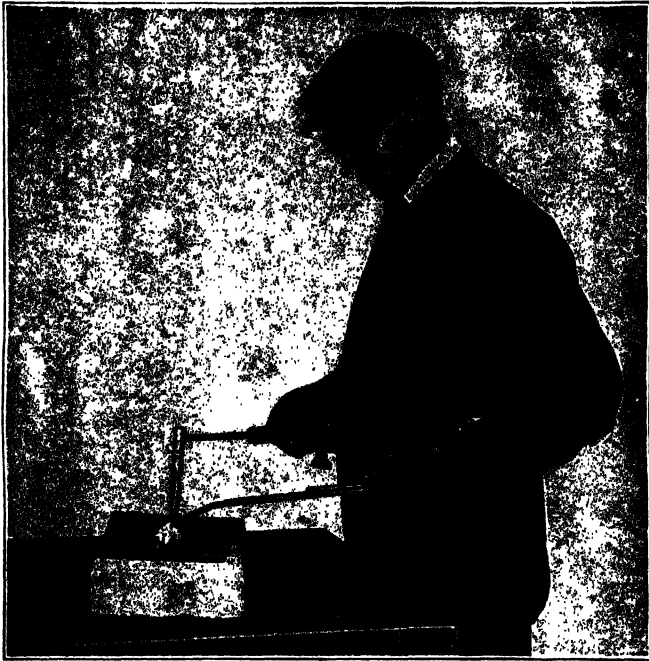

Fig. 14. Simple Job of Welding
- (1) The oxygen regulator is connected to the oxygen cylinder.
- (2) The acetylene regulator is connected to the acetylene cylinder.
- (3) The one hose is connected to the oxygen regulator and to the blowpipe.
- (4) The other hose is connected to the acetylene regulator and to the blowpipe.
- (5) A welding head is selected and attached to the blowpipe.
- (6) The oxygen and acetylene are turned on and the blowpipe is lighted.
**Welding.** The operator is now ready to weld. He takes the lighted blowpipe in his right hand, Fig. 14, and plays the flame upon the beveled edges of the two pieces of metal to be welded. The intense heat of the flame melts the edges and they flow together. As